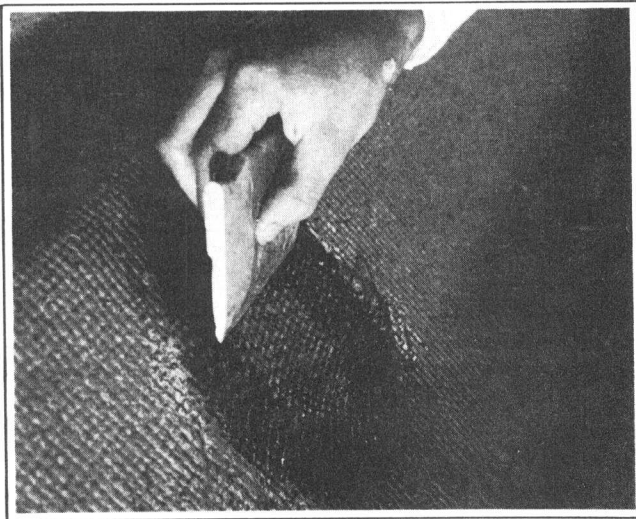

Figure 4-11. Squeegeeing Patch
- Lay patch over hole, cover with cellophane and squeegee out air bubbles. Allow one to two hours to cure, then remove cellophane. See Figure 4-11.